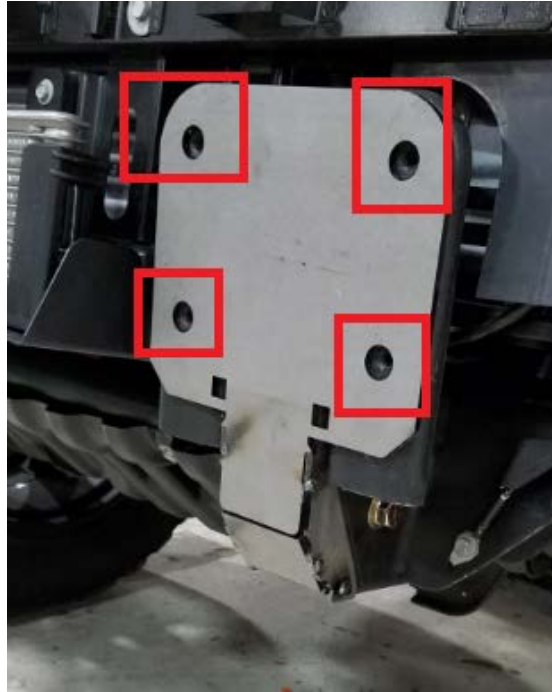

Figure 15a
- B. Center and Mount winch tray to frame of the truck. Use OEM Truck Bumper bolts to fasten winch tray to truck (Figure 15a & b).